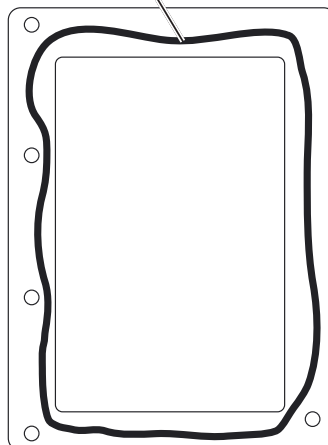

Figure 1
17. Apply silicone around the kick panel mating surface for a water tight seal (See Figure 1, below).
18. Install the kick panel cap bracket onto the kick panel opening, then secure using (5) #14 x 3/4" sheet metal screws (See Photo 17, below).